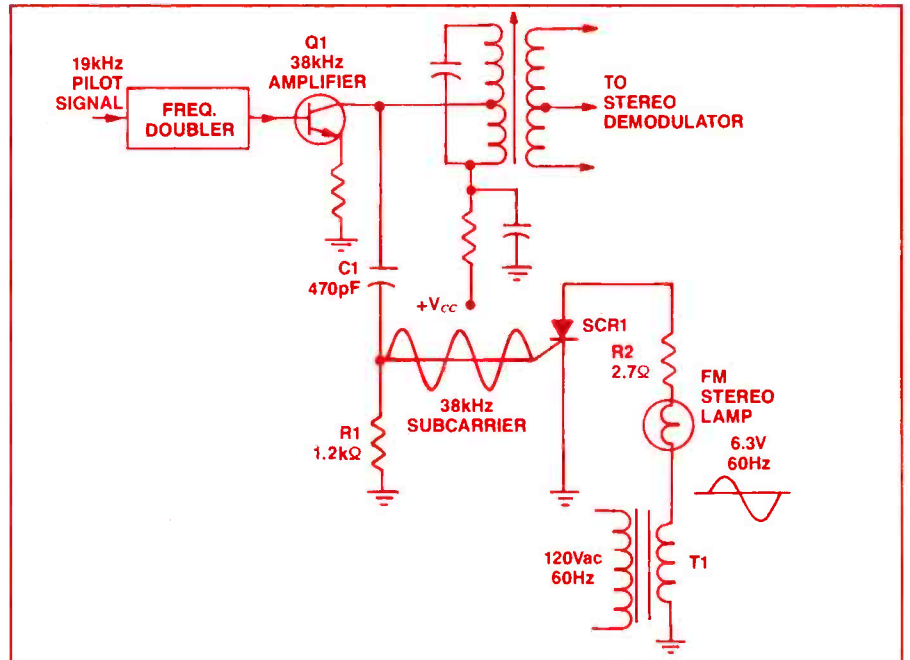

Figure 1. If there is an internal; (anode to cathode) short in the SCR, will the FM stereo lamp be on all the time, off all the time, or will it be destroyed?
- The circuit of Figure 1 was given in an article titled "Thyristors from A to Z" by Lambert C. Huneault. The article was in the February 1990 issue of **ES&T**. As explained in the article, if there is an internal (anode/cathode) short in the SCR the FM stereo lamp will be: